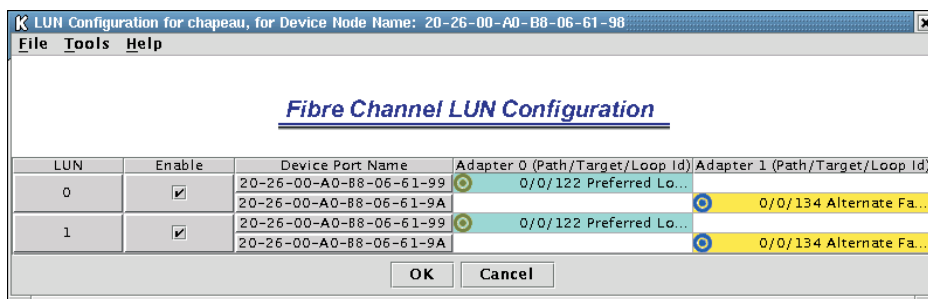

Figure 31. Fibre Channel LUN Configuration window
7. Click **Configure LUNs**. The LUN Configuration window opens (see Figure 31).